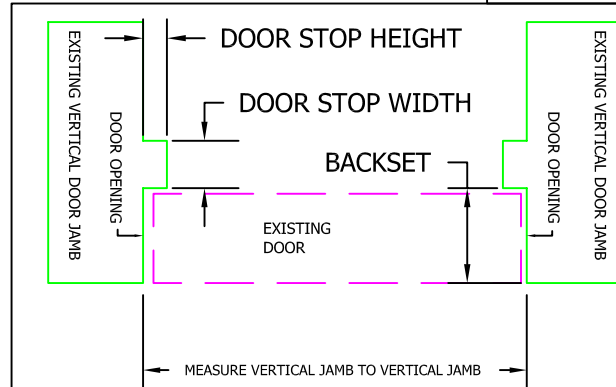

FIGURE 1.2
**-TO FIND THE DOOR OPENING WIDTH (figure 1.2):**